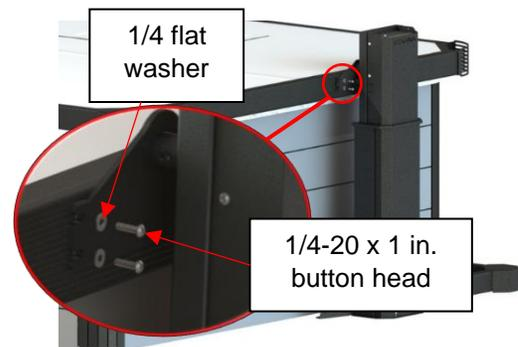

Figure 85
- 24) Screw the two front 1/4-20 x 1 in. button head screws and 1/4 in. flat washers on both sides of the cover and pivot arms as shown in Figure 85.